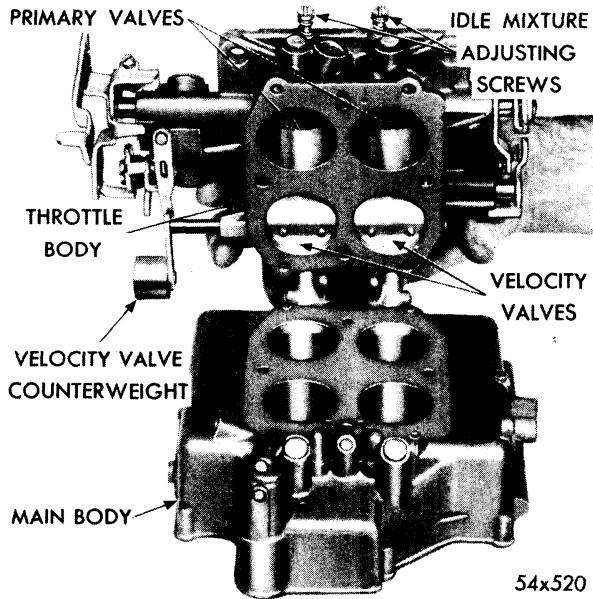
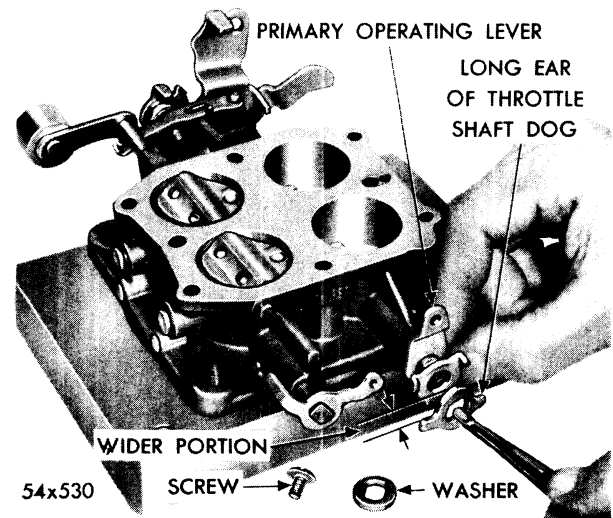
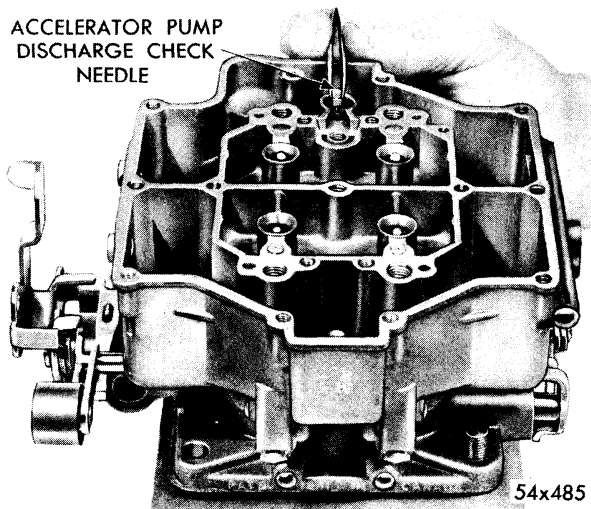

Fig. 28—Removing or Installing Throttle Body
Fig. 42—Installing Primary Operating Lever and Throttle Shaft Dog
Fig. 43—Installing Accelerator Pump Discharge Check Needle
up and away from main body, as shown in Figure 28. Discard gasket.
- (20) Slide the primary operating lever over end of primary shaft with tangs facing away from throttle body.
- (21) Slide throttle shaft dog over shaft and down against operating lever. The larger curved portion of the dog should be facing up, with the ears of the dog making an approximate 45° angle in relation to the base of the valve body when the valves are closed, as shown in Figure 42. Install washer and screw and tighten securely.
- (22) Engage the throttle operating rod with the secondary throttle lever, and slide other end into hole in primary operating lever and install hairpin clip to secure.
- (23) Place the main body upside down on bench, and install a new throttle body to main body gasket. Lower throttle body down on main body. (See Fig. 28.)
- (24) Install screws and tighten securely.
- (25) Turn carburetor right side up on bench, and install the accelerator pump discharge check needle, as shown in Figure 43. Install the secondary and primary idle jets. (See Figs. 26 and 27.) Tighten securely, using Tool T-109-58. Install the main jets